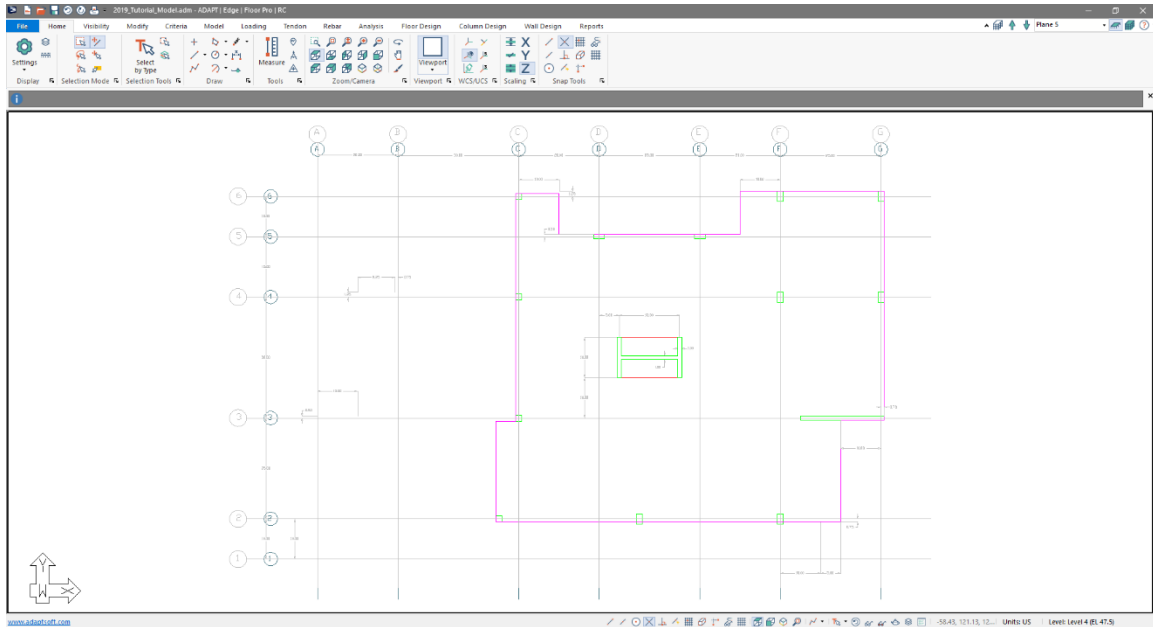

Figure 4-7
- At this point we can click on the *Zoom Extents*  icon. The user should see the imported DWG overlaid with the model gridlines as shown in **FIGURE 4-7**.